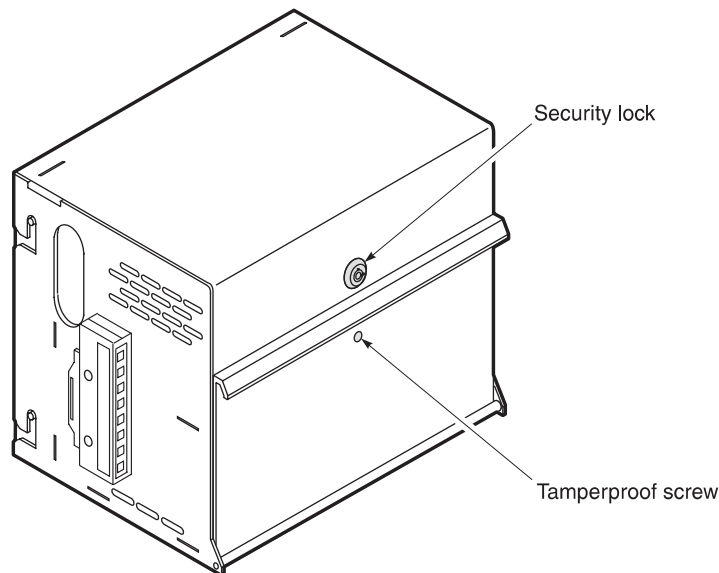

Figure 1. HRE-427 Remote Enclosure, List 1 and 2 front view, houses up to four double-width remote units or up to seven single-width units.
1.01 The ADC® HRE-427 Remote Enclosure, List 1 and 2, (see Figure 1) is an indoor enclosure that houses up to four double-width remote units, or up to seven single-width remote units. The enclosure can also accommodate a -48V power supply to power the remote units locally. Seven 1/4A fuses protect the remote units when they are powered from the -48V power supply. A lockable, hinged, “smoked plastic” front panel provides easy access for inserting or removing the remote units and power supply and for viewing indicators. A set of seven RJ-48C (List 1) or RJ-48X (List 2) modular jacks on the left side of the enclosure connects the remote units to the DS1 data streams of the T1 customer interface (CI). A 50-pin connector (P1) inside the enclosure connects the remote units to HDSL loops 1 and 2 via a customer-supplied 25-pair type 57 cable through a cable access hole on the left side of the enclosure. The enclosure has four rubber feet for desktop installations and four mounting holes in the back cover for wall mounting. A shelf mounting kit SMK-427 (Part No. 150-1273-01) is available from ADC to adapt the enclosure for mounting in 19- or 23-inch racks.
1. Using the security key and socket pin-head key supplied with the enclosure, unlock the security lock and loosen the tamper-proof screw on the front of the enclosure (see Figure 1 on page 2).